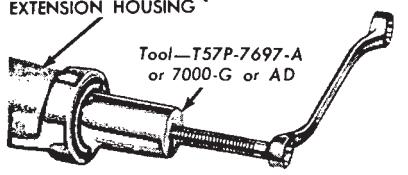

FIG. 20—Removing Extension Housing Bushing
3. Remove the bushing as shown in Fig. 20. Use the bushing remover carefully so that the spline seal is not damaged.